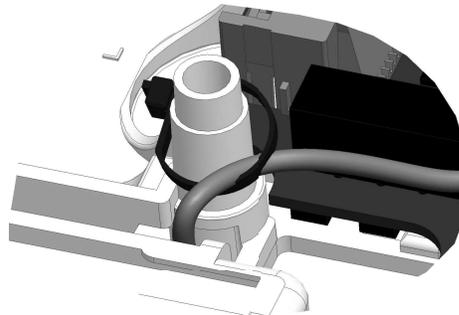

Figure 5: Securing the antenna connector
3. Secure the antenna connector to the plastic base on the enclosure using the cable tie provided (see Figure 5: ).